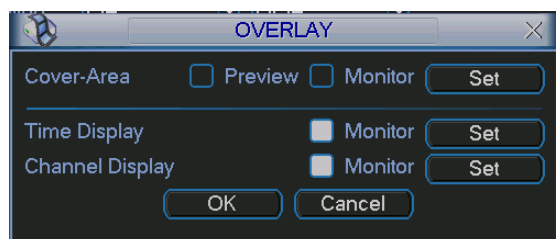

Figure 6-24
- Overlay: Click overlay button, you can see an interface is shown in Figure 6-24.